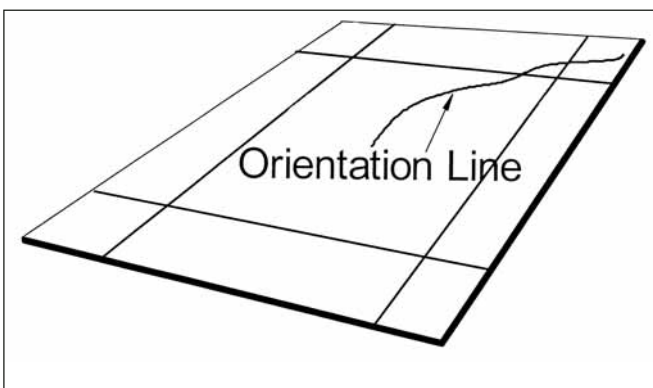

Figure 1: Draw in pencil an orientation line for a point of reference.
A. For this example, the face (top) mat will result in a 2½" border, while a ¼" of the inner (bottom) mat will "peek out" from underneath the face mat. We will begin by cutting a single mat from the face mat. Mark with pencil the back of the face mat with an orientation line (see Figure 1). You will utilize this line to guide you in aligning the mat later in this process.
Next, set the mat guide and measuring stops on your mat cutter at 2½". (If you are not using measuring stops, use the mat guide—set at 2½"—as the edge along which to draw four intersecting lines on the back of the top mat as seen in Figure 1.)